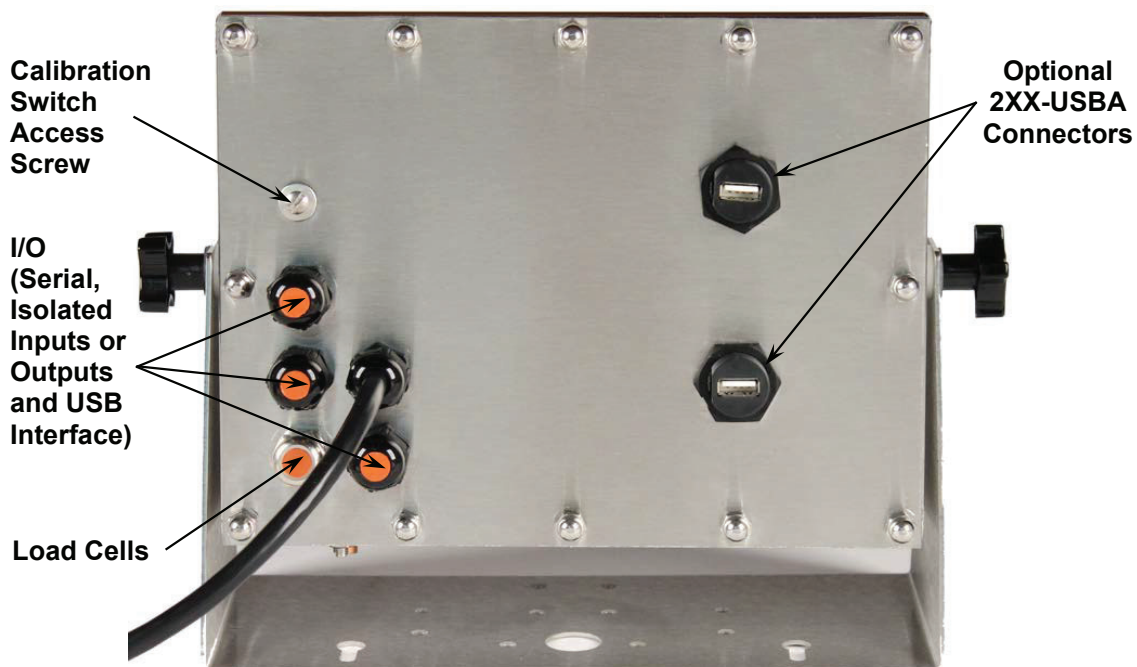
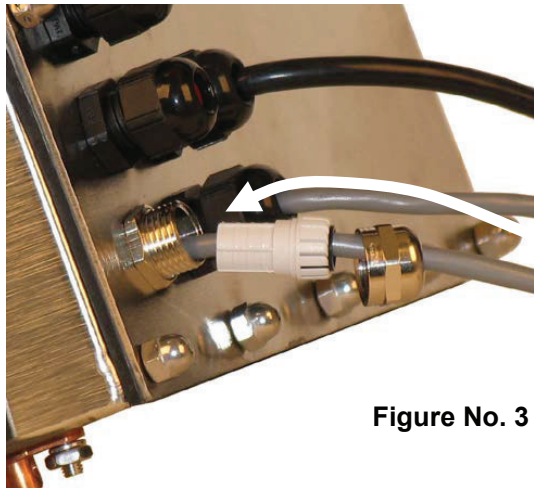

Figure No. 2
Figure No. 3
The load cell cable should be routed through the special metallic gland connector and the shield wire must be connected to this gland connector for grounding and to eliminate RFI. Refer to Figure No. 2 and Figure No. 3 for the appropriate gland connector.
1. Remove the 12 acorn nuts securing the back panel to the main housing, and then loosen a gland connector for the load cell cable. Refer to Figure No. 2 for an illustration of the connector layout.
1. Remove the 12 acorn nuts securing the rear panel to the main housing and then loosen a gland connector for the serial cable. Refer to Figure No. 2 for an illustration of the connector layout.